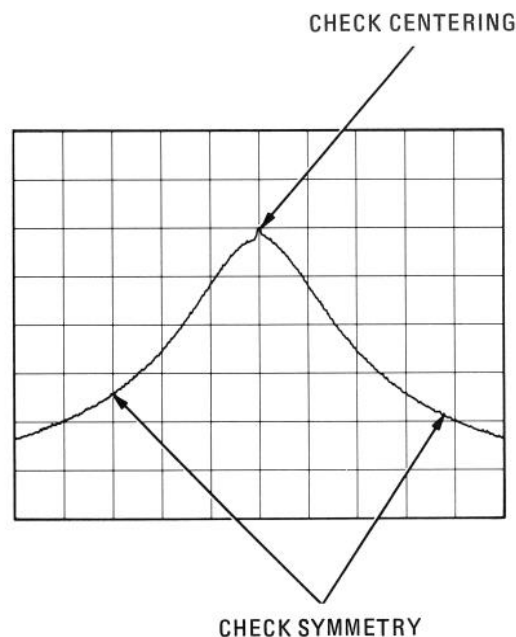

FIGURE 5-8. ADJUSTING CRYSTAL SYMMETRY AND CRYSTAL CENTERING
13. Adjust front-panel TUNING control to center bandpass spike (Figure 5-8) on the CRT display.
14. Adjust A13C54 CTR for minimum signal amplitude. Then adjust A13C38 SYM and A13C54 CTR for a centered and symmetrical bandpass as shown in Figure 5-8.